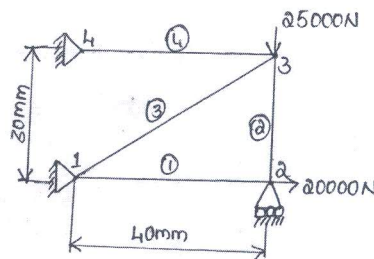

Fig. Q3 (b)
- b. Consider the four bar truss shown in Fig. Q3 (b). It is given that $E = 2 \times 10^5 \text{ N/mm}^2$ and $A_e = 100 \text{ mm}^2$ for all elements. Determine the nodal displacement and stress in each element.